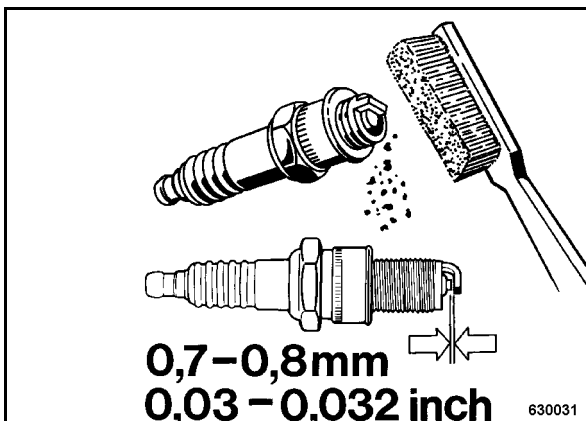

Fig. 41
- Check the spark plug visually and clean it if necessary (Fig. 41).